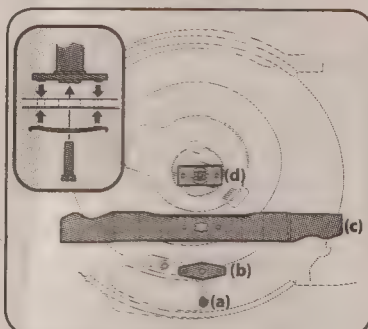

Figure 4-6
3. Remove bolt (a) and blade bell support (b) which hold the blade and the blade adapter to the engine crankshaft. See Figure 4-6.
4. Remove blade (c) and adapter (d) from the crankshaft. See Figure 4-6.
6. Lubricate the engine crankshaft and the inner surface of the blade adapter with light oil. Slide the blade adapter (d) onto the engine crankshaft. Place the blade on the adapter such that the side of the blade marked "Grass Side" (or with part number) faces the ground when the mower is in the operating position. Make sure that the blade is aligned and seated on the blade adapter flanges. See Figure 4-6 inset.